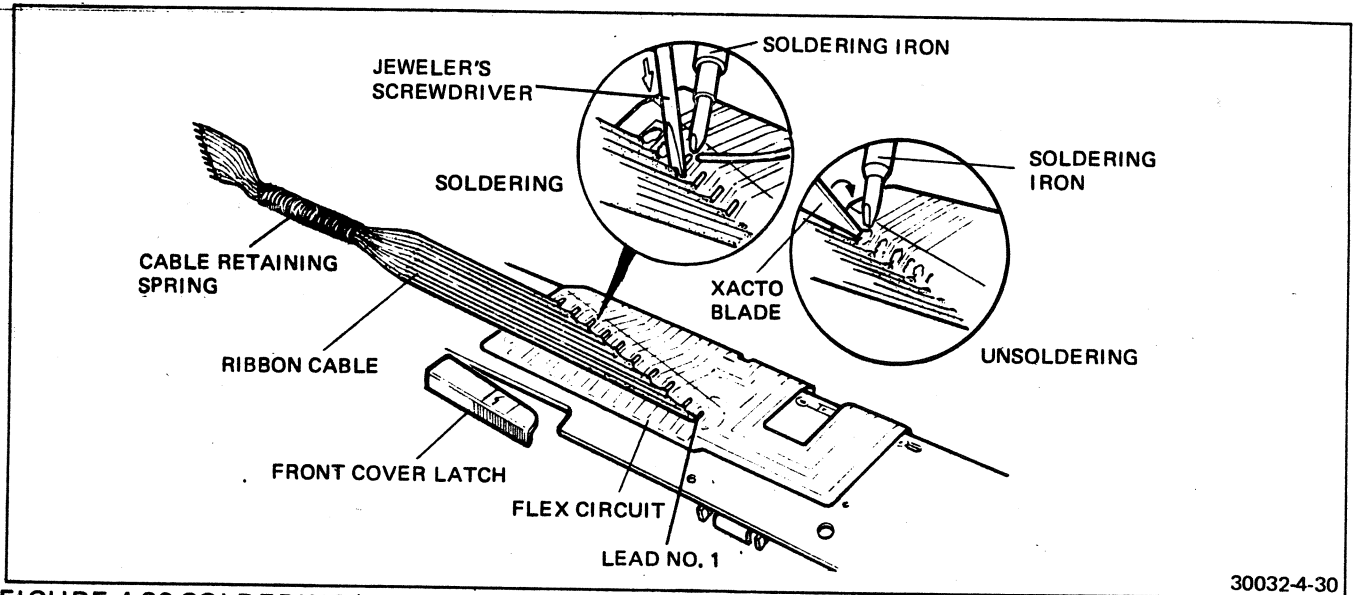

FIGURE 4-30 SOLDERING/UNSOLDERING RIBBON CABLE
9. Refer to Figure 4-30. Starting with lead No. 1 of the cable, insert the point of a sharp blade (a pointed blade Xacto knife is recommended) under the wire. The sharpened edge of the blade must be held so that it makes physical contact with the junction point of the wire lead and the solder pad of the flex circuit. **Do not** insert the point of the blade beyond lead No. 1.
14. Refer to Figure 4-30. Carefully spread the cable clamp just enough to permit removal of